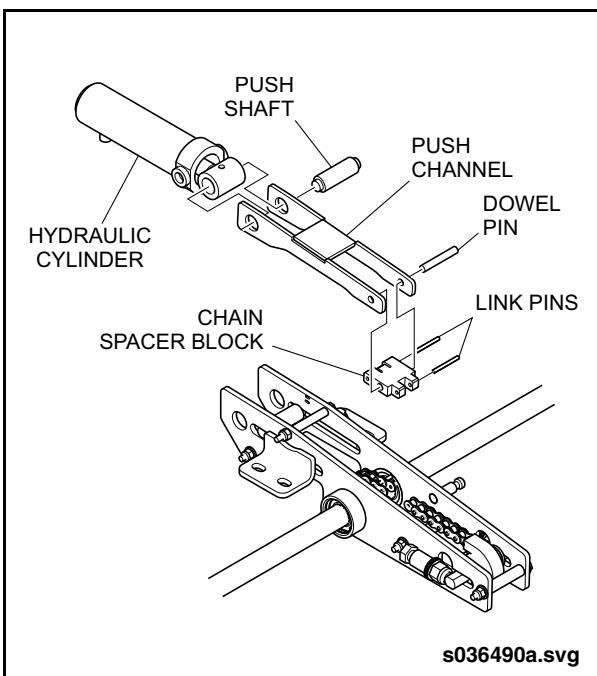

Fig. 20-12: Drive Chain & Spacer Block
6. Remove the two pins that attach the drive chain to the chain spacer block. Remove the chain and spacer block. See "Fig. 20-12: Drive Chain & Spacer Block" on page 19.